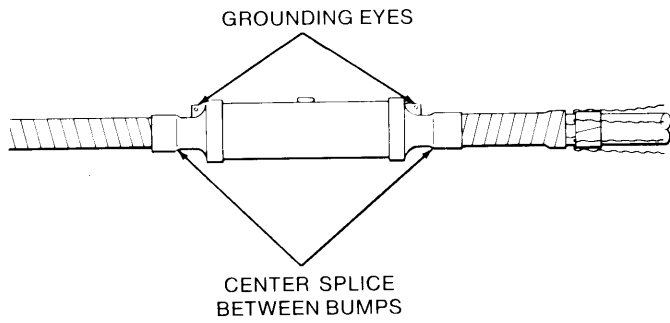

Figure 4
6. Install CI connector, crimped per instructions in table on back page (8). Wipe excess contact aid from conductor and connector area. **REMOVE ANY SHARP EDGES THAT MAY EXIST.**
7. Slide mold body into final position over connector, using bumps formed on splice ends as guides for centering (Figure 4). Wipe off any remaining silicone grease.